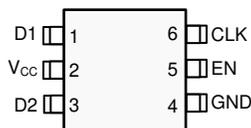

Figure 4-1. Pin Diagram (SOT-23 (6)) Package
4.1 SOT-23 (6) Package
Figure 4-1 shows the SN6505x-Q1 pin diagram for the SOT-23 (6) package. For a detailed description of the device pins please refer to the *Pin Configuration and Functions* section in the SN6505x-Q1 data sheet.